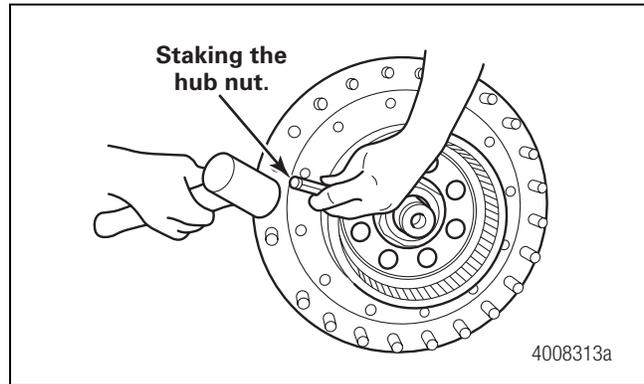
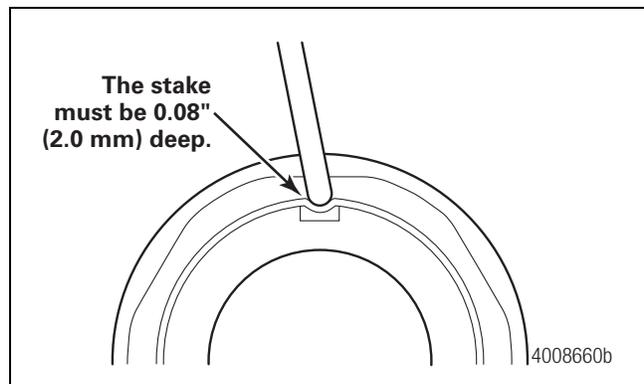

Figure 8.16
Figure 8.17
9. Use a hammer and drift to stake the nut into the spindle slots in two places. Figure 8.16 and Figure 8.17.